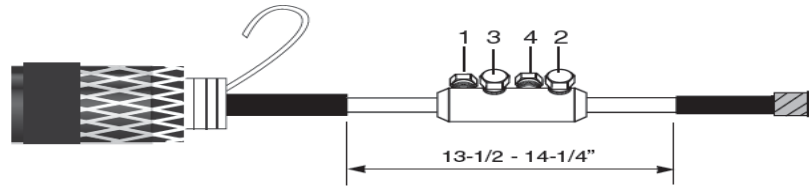

Figure 19
2. Connect the ends of each cable with the proper connector sized to the conductors. Compression connectors are to be used with heat shrink, pre-molded and hand taped splices. Shear bolt connectors are approved for use with cold shrink splices only. For compression connectors make sure to allow an expansion gap from the edge of connector and half the length of the connector for each side as indicated in the instructions. Shear bolt connectors are installed butting the insulation, no expansion gap required. Refer to Figure 19